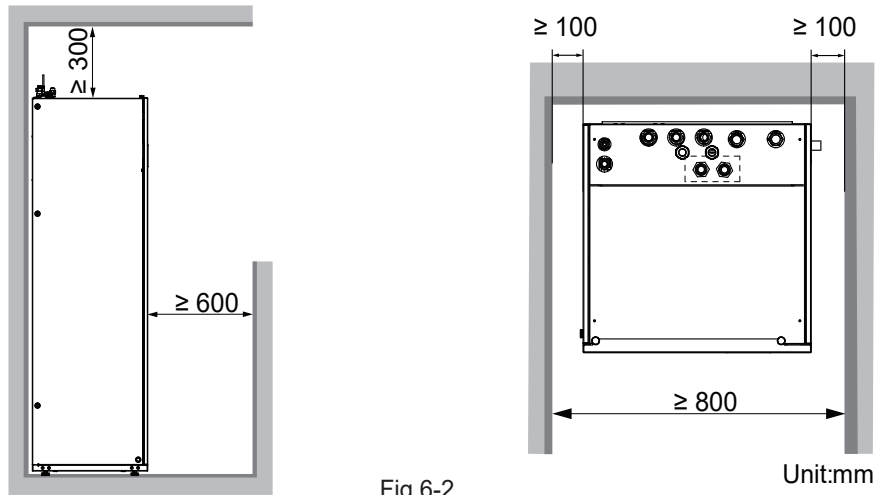

Fig.6-2
- The space around the unit is adequate for serving, see figure 6-2.
- The space around the unit is adequate for serving(Refer to Fig.6-2).